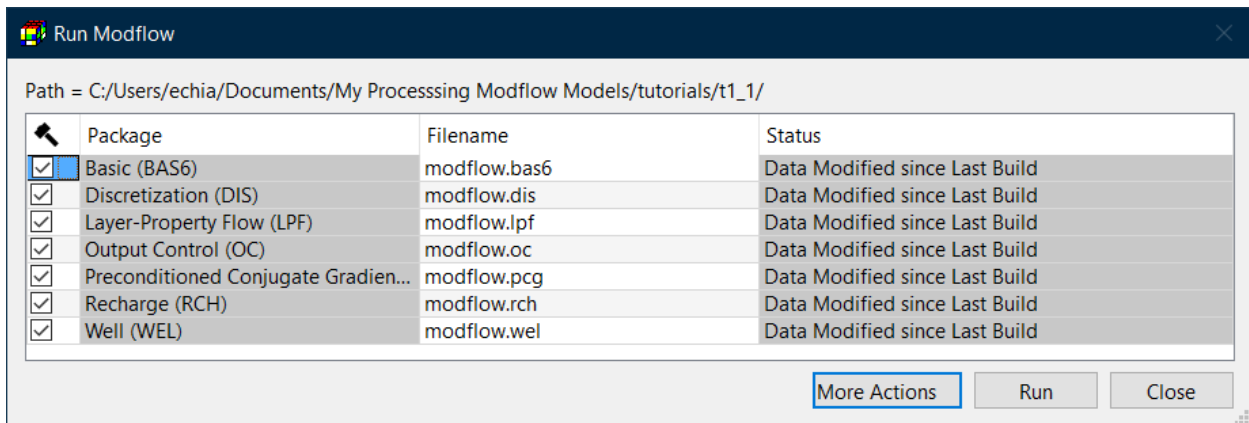

Figure 9. The Run Modflow dialog box
1. Select Models > MODFLOW > Run to open the Run Modflow dialog box (Figure 9). This dialog box shows the packages and the respective input file names. The checkbox of each row indicates whether the input file will be built (or re-built). Usually, PM sets the check boxes automatically and you do not need to worry about their states.